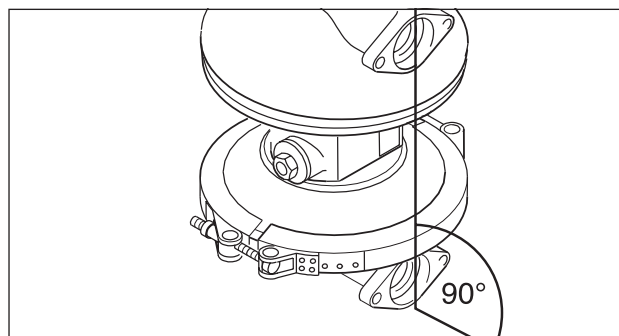
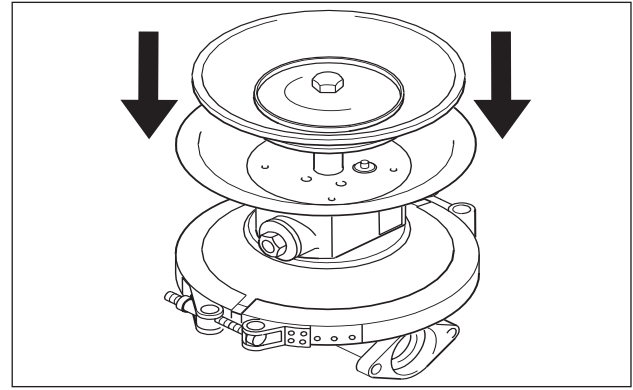

Fig. 7: Alignment of pump chambers
Fig. 15: Assembly of second pump chamber
- Assembly of the pump chamber: Assembly of diaphragm, fixation by fastening the outer diaphragm plate acc. to Section 11 "Tightening torques". The pump chambers must generally be assembled with the diaphragm in suction position (Press diaphragm plate into air chamber) (Fig. 15). Fasten clamp band or mounting flange. Assemble the second diaphragm in the same way. The flange face of the pump housing must be in line (Fig. 7).